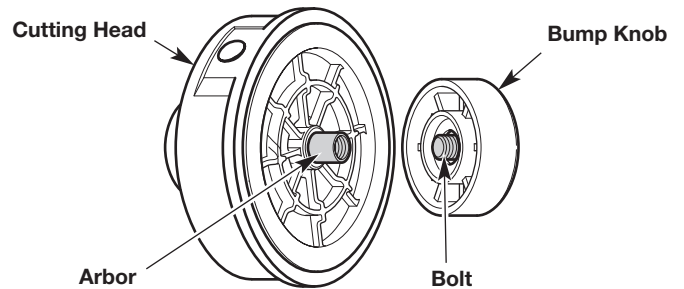

Fig. 27
1. Hold the cutting head in place (Fig. 27). Turn the bump knob clockwise to unscrew it from the cutting head (Fig. 27).
2. Inspect the bolt inside the bump knob to make sure it moves freely (Fig. 27). Replace the bump knob if it is damaged.
5. While holding the inner reel and outer spool together, screw the bump knob on counterclockwise (Fig. 27). Tighten the bump knob securely.